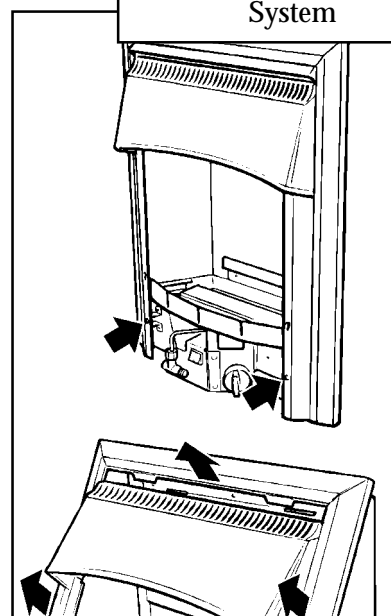

Figure 6 Front Surround Removal
4.3 Remove the two screws securing the bottom of the front surround to the sides of the convection box. Raise the front surround to allow the retaining lugs at the top to clear the slots in the convection box hood and then lift clear (see figure 6).